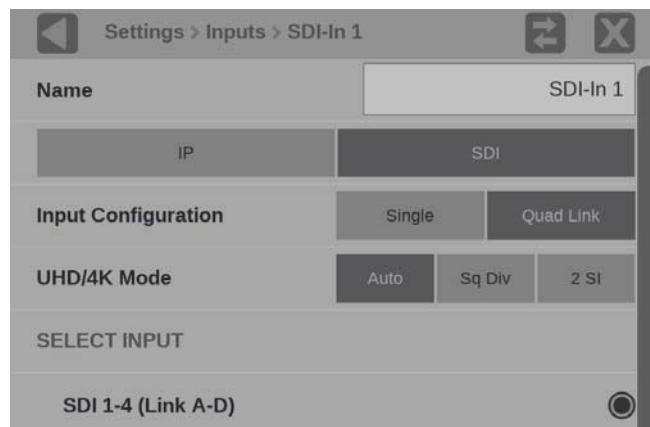

Figure 28: Quad Link SDI signal configuration
5. Select **Quad Link** for the Input Configuration. SDI 1-4 (Link A-D) is selected by default. (See Figure 28.)